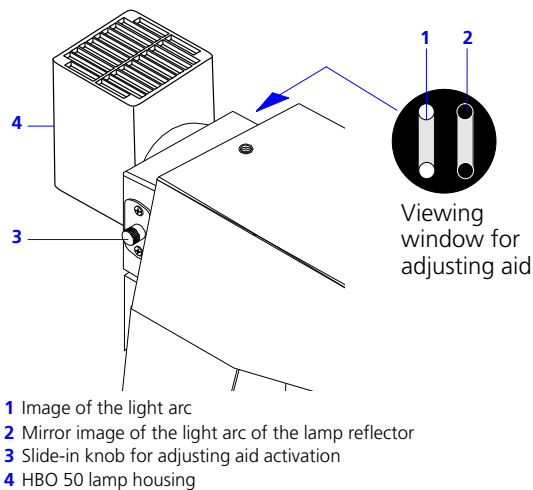

Fig. 122 Adjusting aid
- Push adjustment aid for incident light lamp in the beam path. This is located on the back left of your microscope (see → Fig. 122). In the viewing window for the adjustment aid on the rear back right of your microscope you can check the position of the light arc and its reflector image.
- Make any required corrections using (3) and adjusting screws (4 / 6 / 7 / 8 and 9).